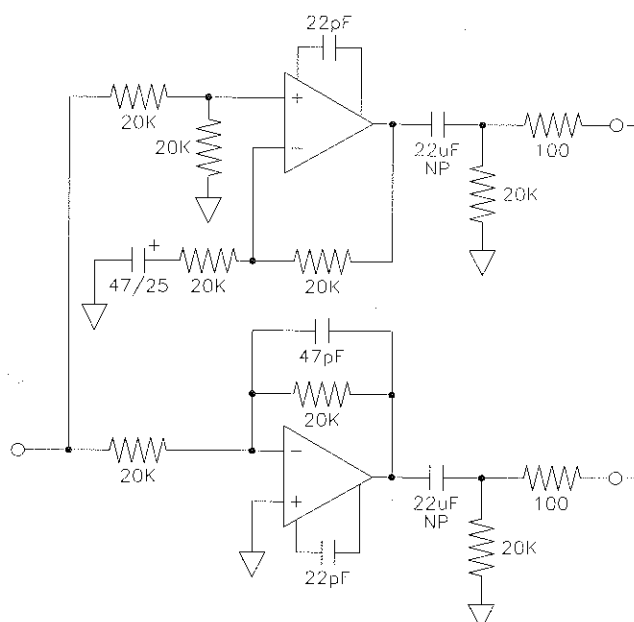

Fig. 2 Flex Series Balanced Line Drivers
**Outputs.** Most main outputs feature high-current active differential balanced line drivers (Fig. 2). Special compensating techniques optimize Flex output stages for driving long reactive lines. Standardized output impedances equal 100 ohms (200 ohms balanced).